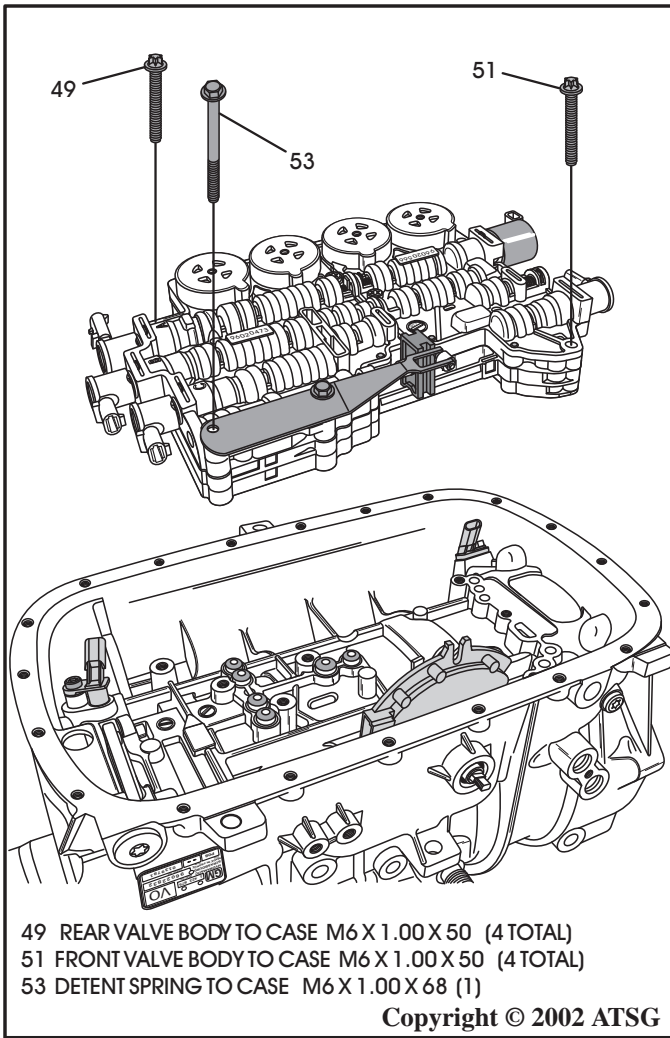

Figure 199
5. Install the pre-assembled valve body assembly onto case, as shown in Figure 199.
6. Install the proper bolts installed in the locations shown in Figure 199 and 201, and hand tighten only at this time.